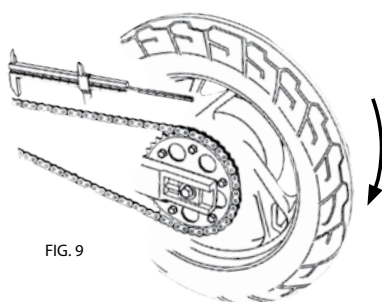

FIG. 9
1. Place the chain under tension. If the chain is assembled on the motorcycle, tension the upper strand by placing the transmission in a low gear and rotate the rear wheel (fig. 9). If the chain is disassembled, place the chain on table, securing it at one end and applying a tension load of approx. 20 kg (45 lbs) at the opposite end (fig. 10).
2. By using calipers or a precision millimeter scale, measure the distance between two pins center at a number (N) of links a part (see table).